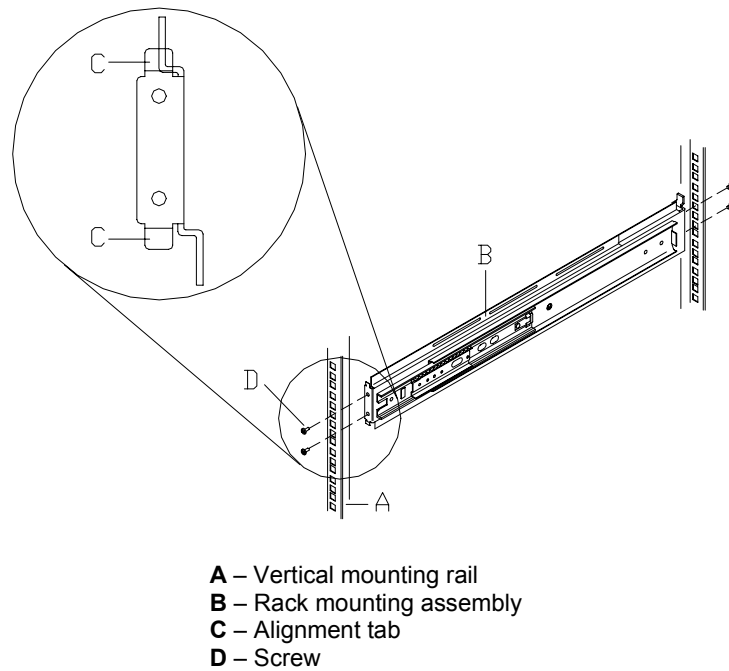

Figure 2-7 Installing the Left Rack Mounting Bracket Assembly into the Rack
5. Align the left Rack Mounting Bracket Assembly behind the mounting holes in the vertical mounting rail (see Figure 2-7) located on the left side of the rack cabinet. The tabs on the front and rear of the Rack Mounting Bracket Assembly help to align it with the holes in the vertical-mounting rail.
6. Install two screws (see Figure 2-7) that secure the front of the Rack Mounting Bracket Assembly to the vertical-mounting rail and tighten loosely.
8. Install two screws (see Figure 2-7) that secure the rear of the Rack Mounting Bracket Assembly to the vertical-mounting rail.